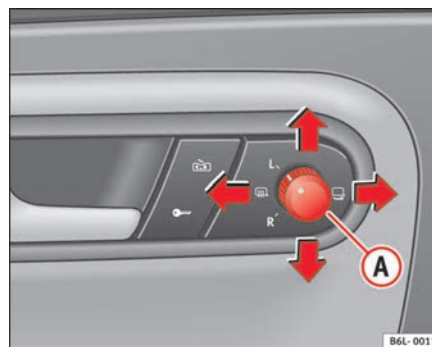

Fig. 71 Exterior mirror control
1. Turn knob ⇒ **fig. 71** to position **L (left exterior mirror)**.
- Turn the control to the demisting position  ⇒ **fig. 71**. ▶
- Turn the control ⇒ page 102, fig. 71 to position  to fold in the exterior mirrors. You should always fold in the exterior mirrors if you are driving through an automatic car wash. This will help prevent damage.